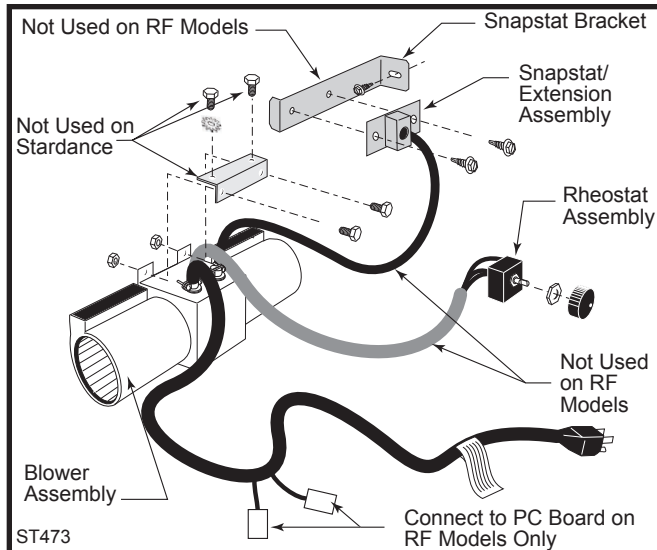

Fig. 14 Fan kit components.
1. The fan kit includes a Blower Assembly and a Rheostat Assembly, connected by a cable. (Fig. 14) The Blower Assembly mounts to the bottom rear of the stove, and the Rheostat mounts to the valve bracket to the left of the valve. The assembly includes a 'snapstat' which automatically turns the fan On (or Off) above (or below) approximately 109°. The Rheostat also provides a range of fan speed settings from Off (which overrides the snapstat function) to High. Unpack and inspect the Blower assembly. Confirm the fan spins freely.